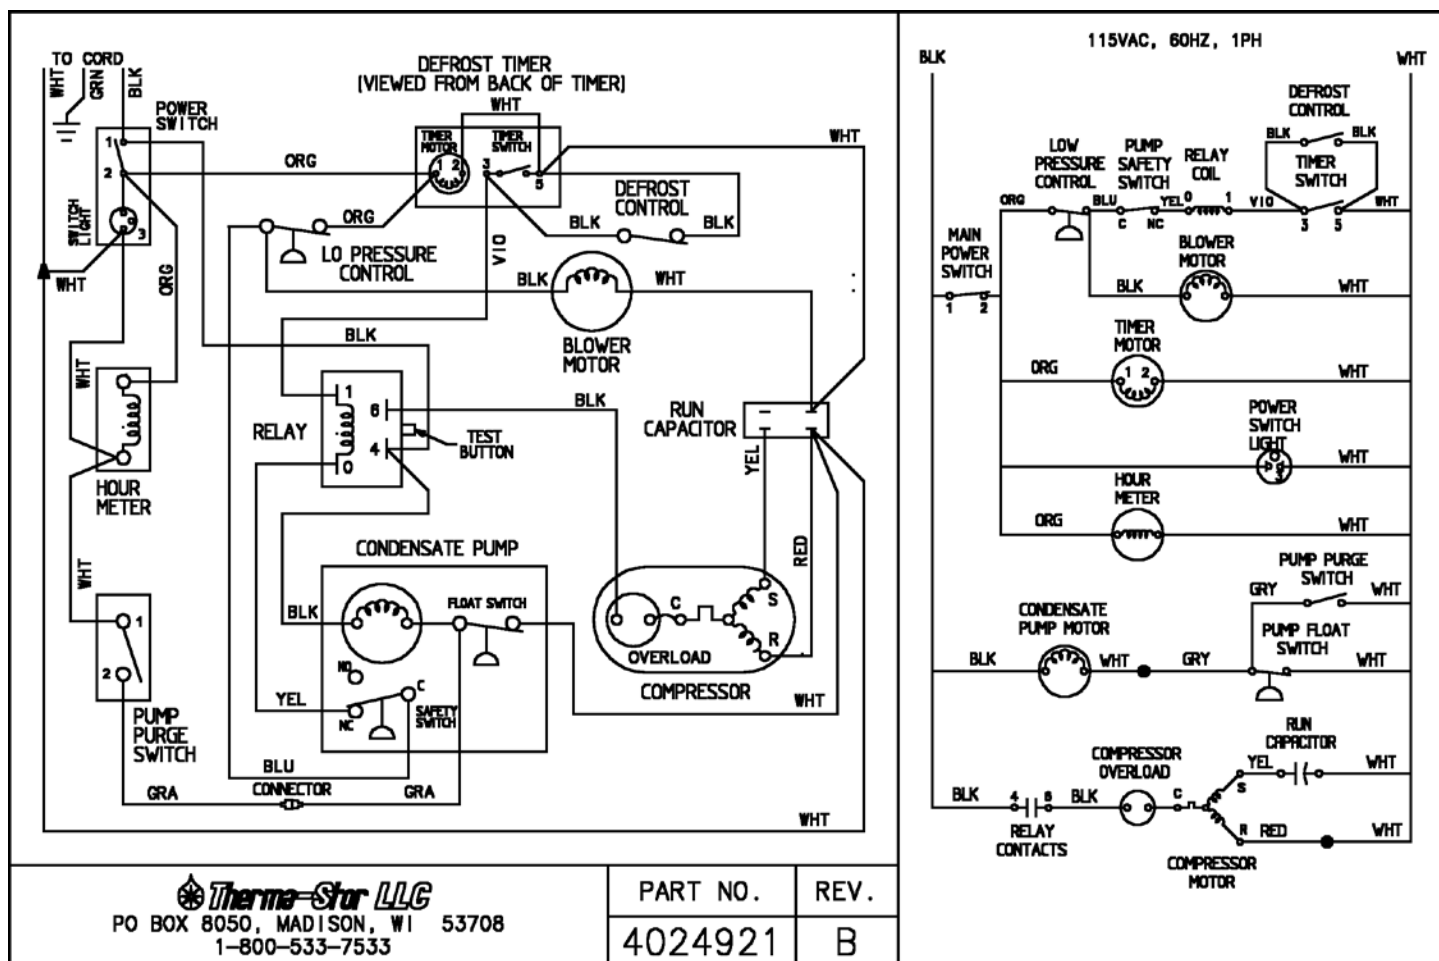

Figure 3: Electrical schematic of 200 MAX
1. Loose connection in blower circuit (see Fig. 3).
4. Bad connection in pump circuit (Fig. 3).
1. Bad connection in purge switch circuit (Fig. 3).
This compressor is equipped with a two terminal external overload, run capacitor, but no start capacitor or relay (see Fig. 3).